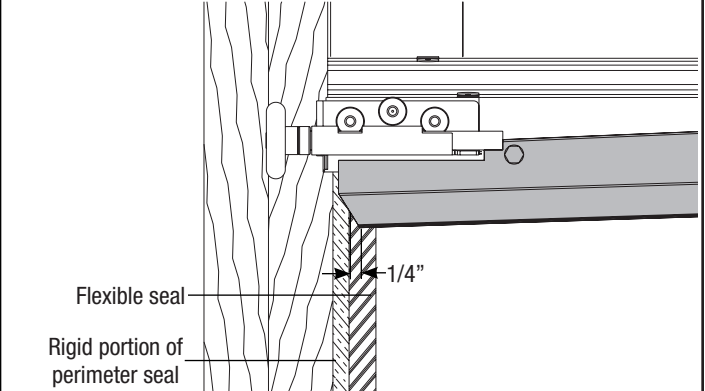
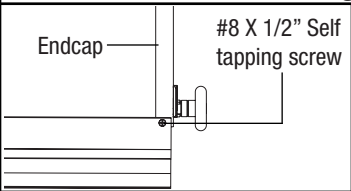

Fig. 4
Fig. 5
STEP 4: If you have the plastic retainer adjusted to the 3/4" maximum at one end of the section, it may be necessary to trim the end of the retainer at an angle to clear perimeter seal. Trim plastic retainer so there is 1/4" of clearance, as shown in **Fig. 4**. You will also need to install (1) #8 x 1/2" self-tapping screw in the outside edge of the plastic retainer into endcap, as shown in **Fig. 5**.